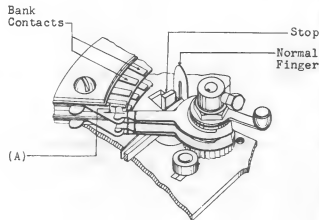

Fig. 7—Normal Position of Wiper Springs
- (a) **Fig. 7(A):** The step from the normal position to the first bank contact shall be approximately equal to the steps between the first and second bank contacts.